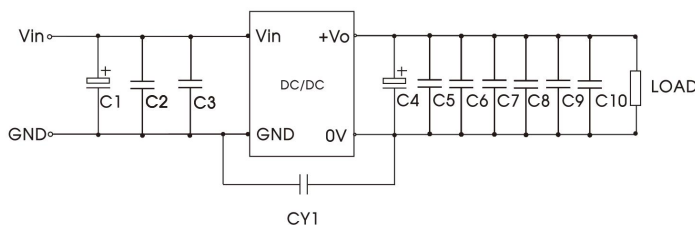

Fig. 3
- ① All index testing methods are obtained by add enhanced peripherals to the product (see Fig.3), otherwise the product may not work properly;
② Exceeding the maximum input voltage may cause permanent damage.
① Output voltage accuracy for 0%-5% load is ±5% max;
② Load regulation for 0% -100% load increases to ±3%;
③ The Transient Response Deviation test using the peripheral circuit recommended in Fig.3;
④ The "parallel cable" method is used for Ripple and Noise test, and the peripheral circuit recommended in Fig.3, please refer to DC-DC Converter Application Notes for specific information.
All DC-DC converters of this series are tested before delivery using the recommended circuit shown in Fig. 3.
C15	Refer to the Cout in Fig.3 C4
C16/C17	Refer to the Cout in Fig.3 C9, C10